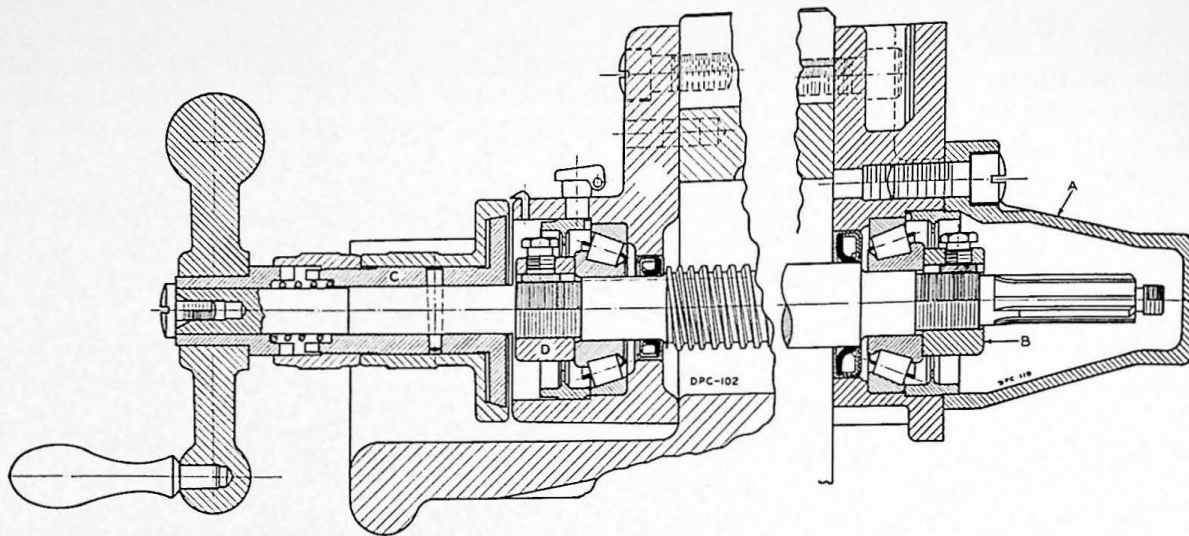

FIGURE 11
1. Remove cover over end of lead screw at right-hand end of table. "A" in Fig. 11.
2. Remove lock nut on lead screw. "B" in Fig. 11. After loosening hexagon head lock screw in nut, tap nut to loosen shoe in lock nut.
5. Remove taper pin from clutch "C", and remove clutch. This will expose lock nut on lead screw "D". Remove this lock nut in the same way as described under item 2.